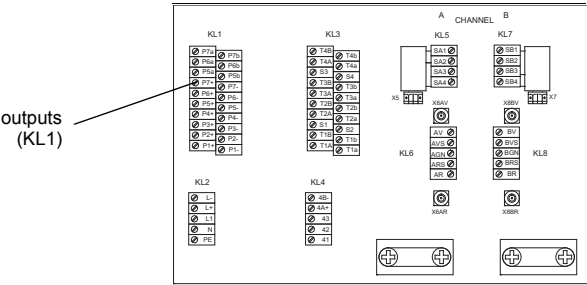

Fig. 6.11: Connection of the Outputs
- Connect the leads to the terminals of the outputs as displayed on the transmitter (see Fig. 6.11 and Table 6.10).